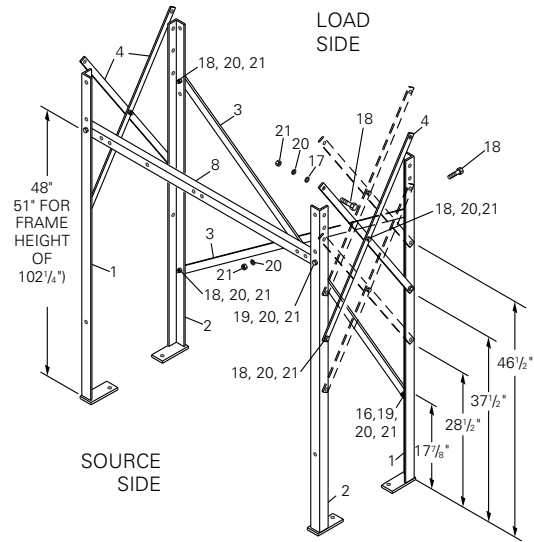

Figure 4. Assembly of bottom of Substation Frame KA89WV1.
Stage 1: Assemble the frame base (Figure 4).
Refer to Figures 4–6 and Table 3.
- Attach the short cross braces (Item 4) to the upper and lower posts as shown in Figure 4.
Note: Use a spacer (Item 17) between each brace and post when attaching upper ends of the short cross braces to the upper posts (Figure 4).
- Assemble the tank-lifting windlass support angles (Item 8) to the inside surfaces of the frame posts (Figure 4 and 6).
- Mount the other support angle on the near side (source/windlass side of the recloser) 48 inches from the pad (Figure 4).